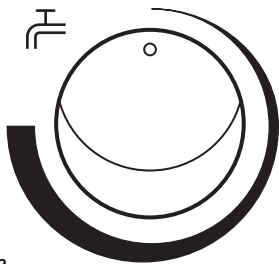

Fig. 68a
7. The pre-heat feature will not operate if the DHW Control is turned fully anticlockwise (Fig. 68a). In this position the boiler will operate as a conventional combination boiler, providing hot water at 50° C.